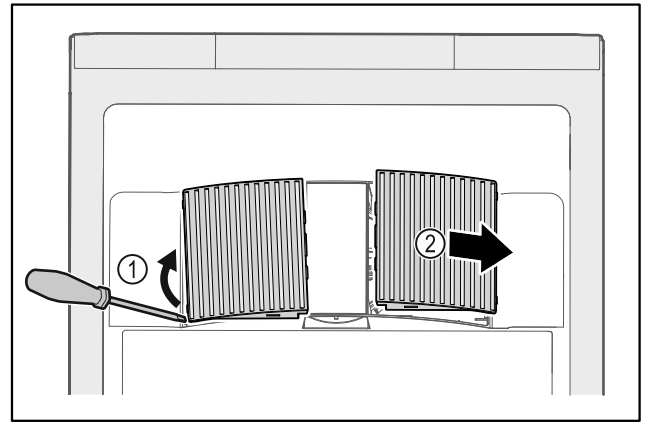

Fig. 141
- ▶ Carefully lever out fan covers from the side Fig. 141 (1) and remove towards the front Fig. 141 (2).